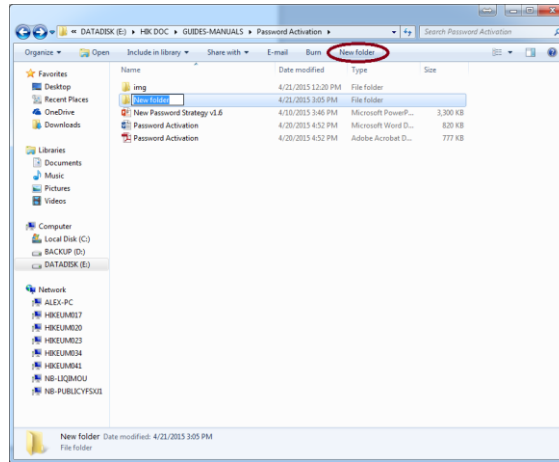

Figure 115 Create a new folder into which to export the *.XML file
1. To request a password reset code, create a folder on your PC (Figure 115) into which to export the *.XML file.